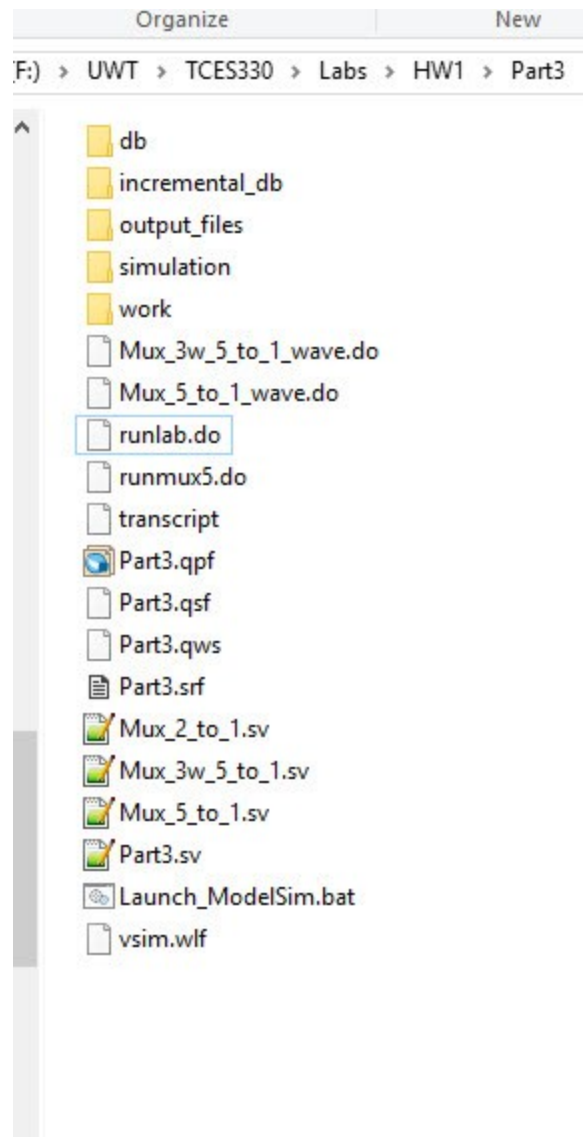

Figure 8. Part3 directory contents.
14. When you are done, your Part3 folder should look something like Figure 8.